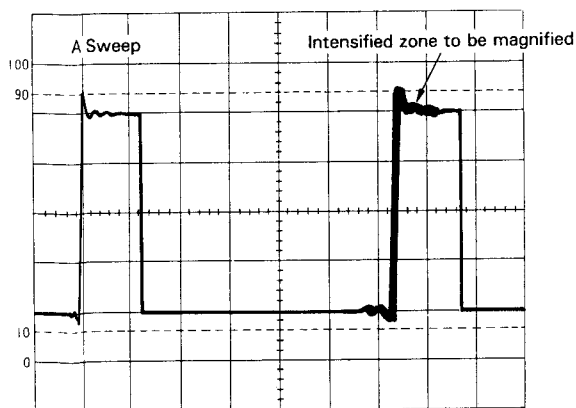

Fig. 12
2. Set the B sweep in the STARTS AFTER DELAY mode. Set the HORIZ DISPLAY to the INT mode and the B sweep will appear as an intensified portion of the A sweep. The length of the intensified portion is adjusted by the B SWEEP TIME/DIV control. (Fig. 12)